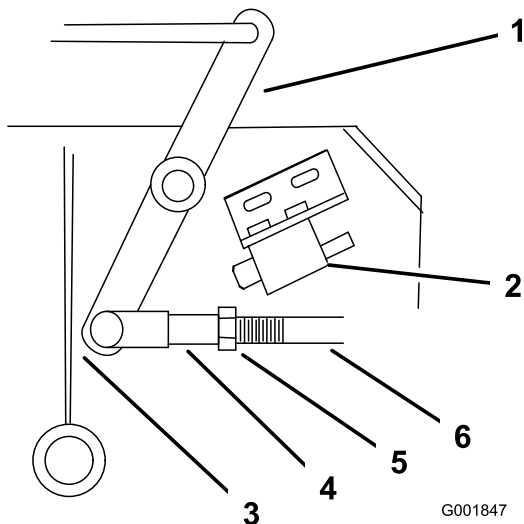

Figure 57
- Adjust the linkage length to where the lower end of the bellcrank just clears the axle support gusset (Figure 57).
9. Loosen the nut against the yoke (Figure 57).